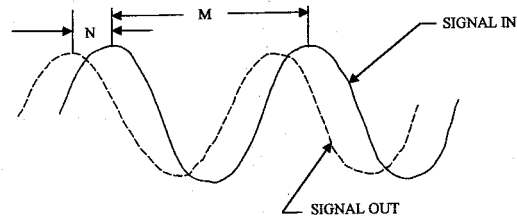

FIGURE 4 PHASE CHANGE
- (c) Phase lag of the filter output signal with respect to the filter input signal, i.e. record "M" and "N" (see Fig.4).
(In Fig.4, there is a phase lag ϕ is negative)